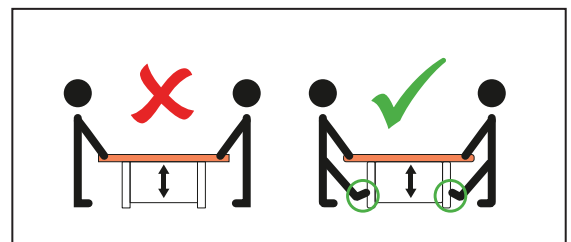

Fig.3 - Correct way of lifting / lowering the table top.
1. Place a foot in both table recesses at adjacent sides (Fig.3). (these will help steady the table base, when lifting).